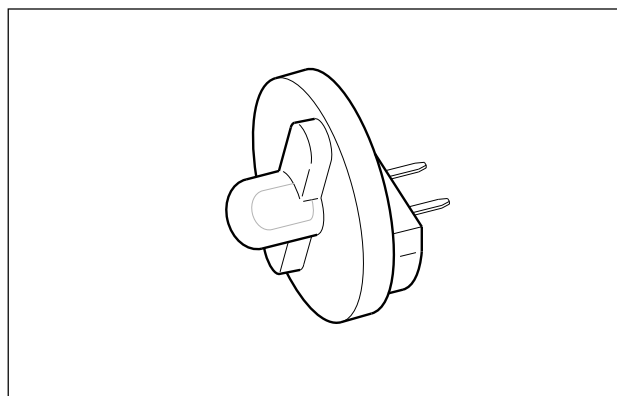

Figure 4-26. Test Lamp
3. Purge fuel line and remove fuel tank to access fuel injectors. See 4.37 FUEL TANK. Use test lamp as shown in Figure 4-26.